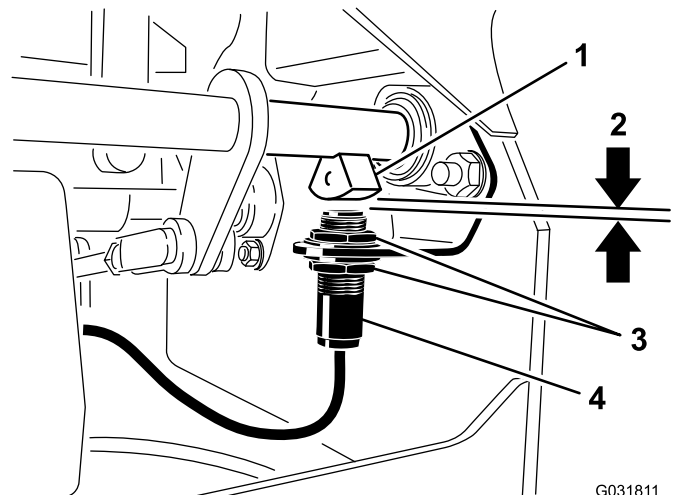

Figure 73
4. Move the switch up or down on the bracket until the distance between the brake-shaft sensor and the switch plunger is 4 mm (5/32 inch) as shown in Figure 73.